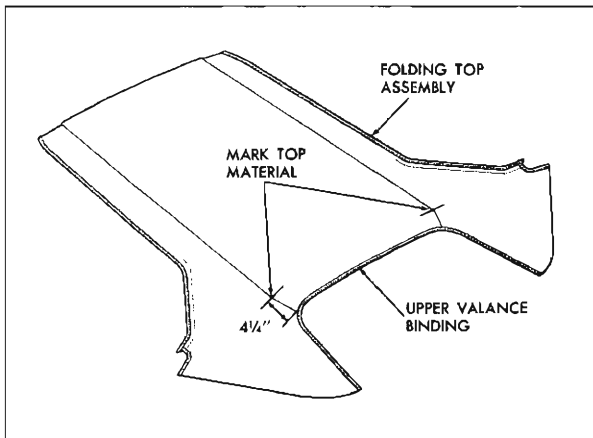

Fig. 21-48 Marking Top Material
25. Using a pencil, mark top material (mark should be approximately  $\frac{1}{2}$ " in length) at deck seam  $4\frac{3}{4}$ " from edge of top material upper valance binding (Fig. 21-48).